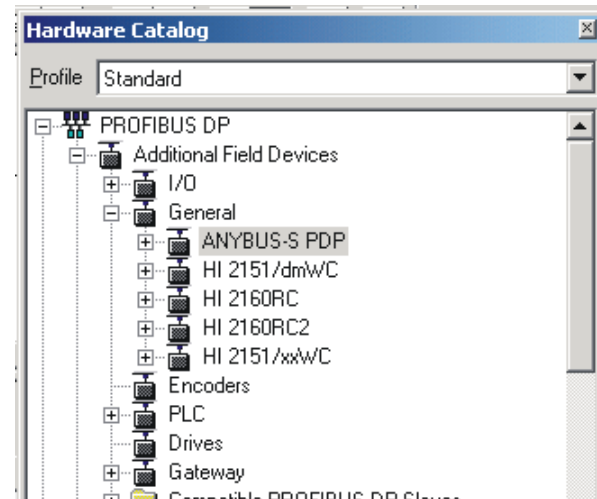

FIG. 141: HARDWARE CATALOG/SELECTING ANYBUS-S PDP FOLDER
- Step 1. In the Siemens Step 7™, Simatic Manager open the Hardware Catalog. (See Fig. 141)
- Step 2. Click on the “+” to expand the Additional Field Devices Folder. (See Fig. 141)
- Step 3. Click on the “+” to expand the General Folder. (See Fig. 141)